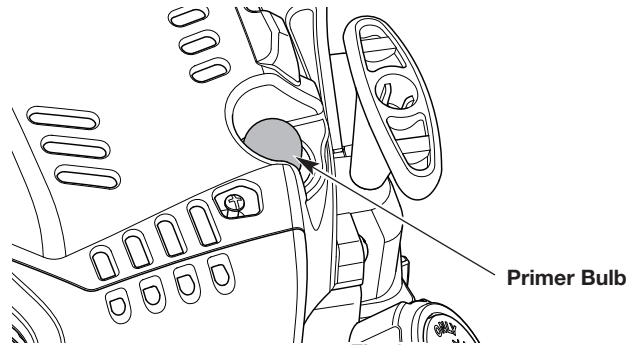

Fig. 8
3. Slowly press and release the primer bulb **10 times** (Fig. 8).